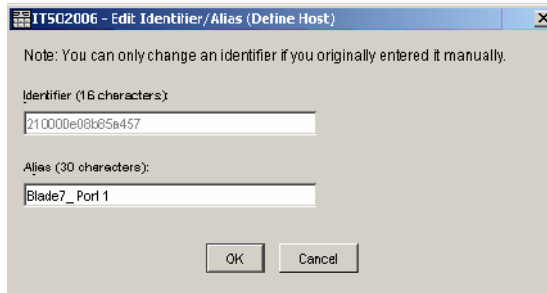

Figure 5-76 Naming the WWN for the server blades
4. Create a descriptive Alias for each WWPN. Make sure to differentiate between the two ports (for example, Port 1 and Port 2), as shown in Figure 5-76.